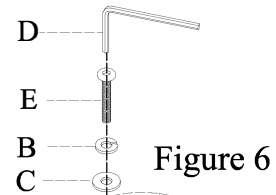

Figure 6
7. Attach a leg frame to the stool top using Bolt (E), Lock Washer (B), Flat Washer (C) and Allen Wrench (D). As Shown in Figure 6.